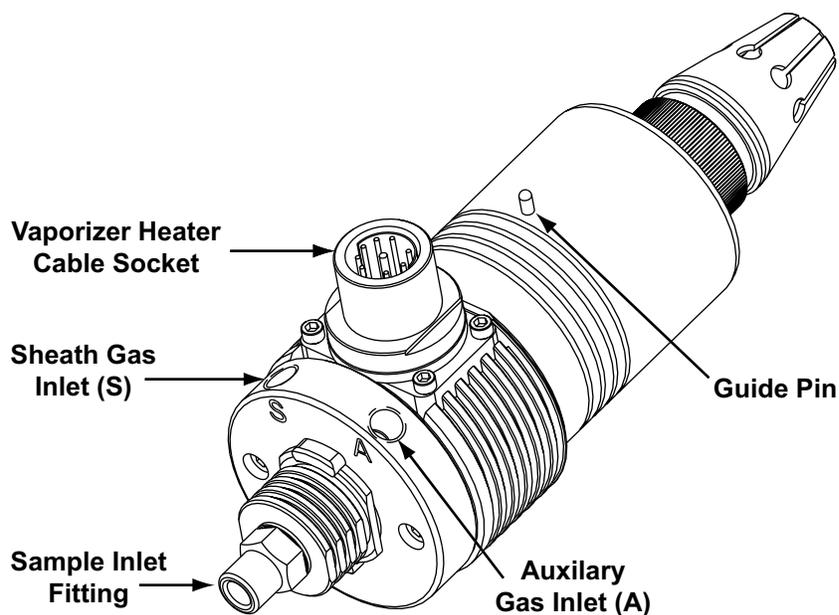

Figure 64. APCI probe
1. Connect an appropriate length of (red) PEEK tubing (transfer line from the divert/inject valve) from port 3 of the divert/inject valve to the (stainless steel) sample inlet fitting on the APCI probe. See Figure 63 and Figure 64.